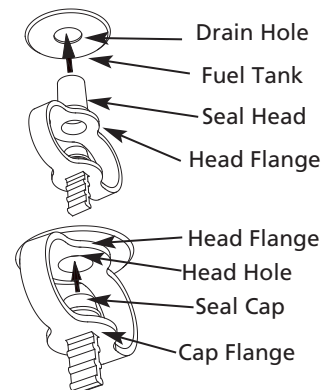

Figure 9 – Drain Plug Reinstall
- Insert plug's seal head fully into drain hole so that flange is flush to tank's bottom. See Figure 9.
- Insert seal cap fully into head hole so that cap flange is flush to head flange. See Figure 9.